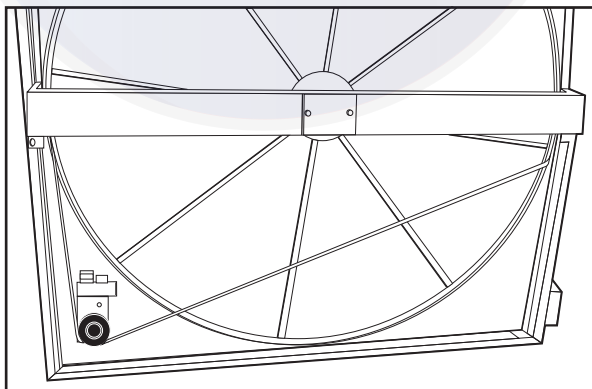

Fig. 173 — Belt Removal
9. Lift and remove the belt from the wheel rim between a point opposite the pulley and belt retaining clip and stretch over pulley (see Fig. 173).